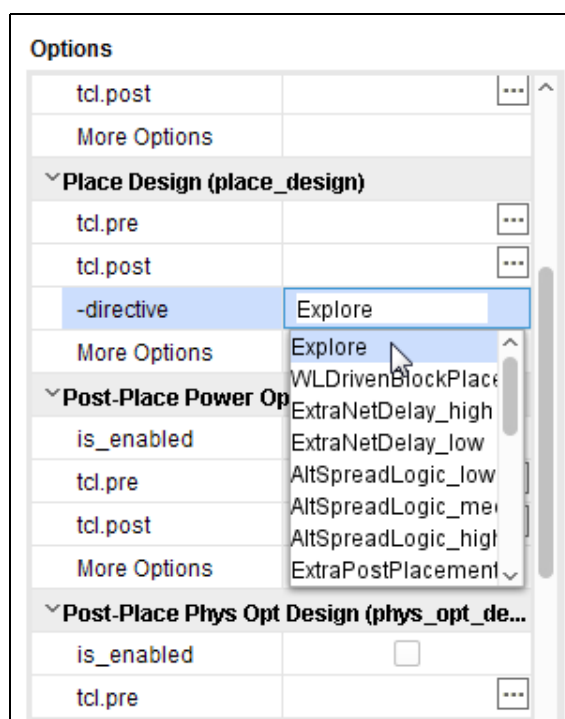

Figure 2-10: Edit Implementation Steps
- Click the right-side column of a specific option to modify command options. See Figure 2-10 above for an example.